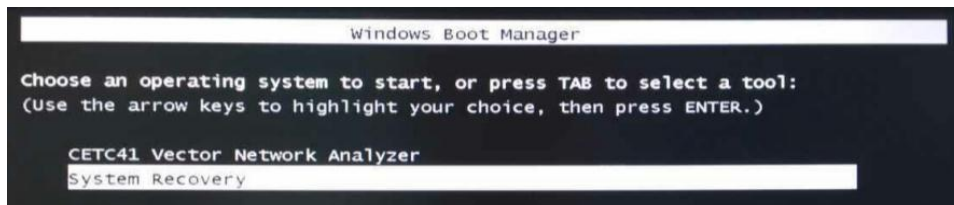

Fig. 2.8 Power-on Display
- 2) Press down **【Power On/Standby】** key in the left bottom corner of the front panel. When the indicator lamp connected with the keyboard lights up and the page as shown in Fig. 2.8 appears, immediately press down **【↑】** and **【↓】** keys on the keyboard to select System Recovery, and then press down **【Enter】** key on the keyboard to automatically recover the instrument;